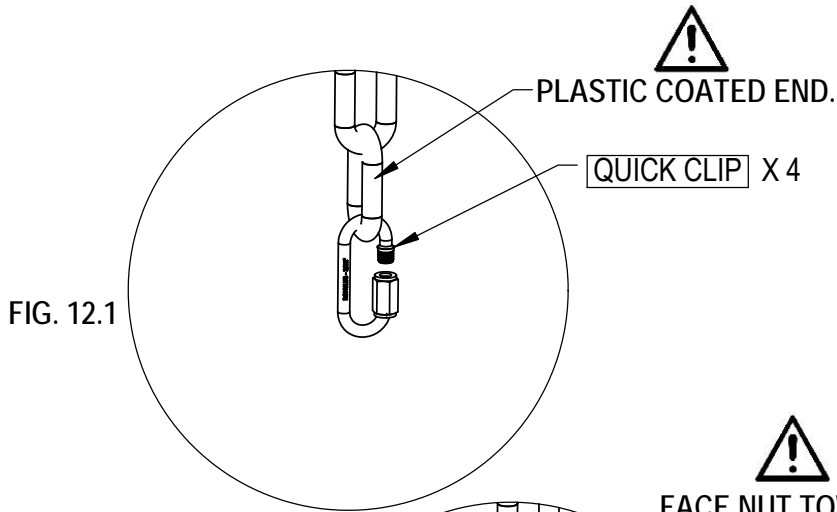

FIG. 12.1
1. ATTACH CHAIN TO QUICK CLIP FIRST, POSITION AT TOP OF LINK AS SHOWN. (FIG. 12.1)